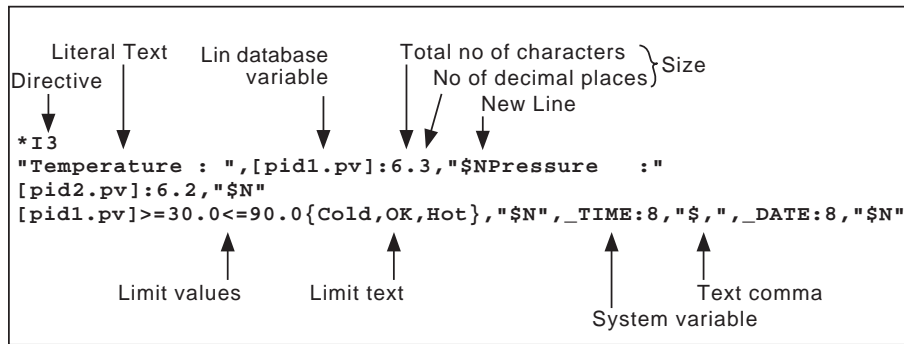

Figure 5.9.1a Sample .UYF file
An example of a .UYF file is given in figure 5.9.1a, and the resulting output in 5.9.1b The various highlighted items are discussed below.
Limit values/Limit text	<p>As shown in figure 5.9.1a, it is possible for a status line to be printed out according to the value of the variable. In the example given, the entry :</p> <pre>[PID1.pv]&gt;=30.0&lt;=90.0 {Cold,OK,Hot}</pre> <p>means that if the value of PID1 is 30.0 or more, but less than or equal to 90.0, the word 'OK' is printed. If the value is below 30.0 the word 'Cold' is printed, and if the value is above 90.0, the word 'Hot' is printed.</p> <p>It is possible to use alarm limits as the limit values, and also to use dictionary entries for the limit text e.g.</p> <pre>[PID1.PV]&gt;=[Pid.LL_SP]&lt;=[PID1.HL_SP]{#U10,#U11,#U14}</pre> <p>would print the text string held in item 11 of the User dictionary if the value of PID1 lies between the limits. If the value lies below the lower limit, the message held in U10 is printed, and if the value lies above the upper limit, the text held in U14 is printed.</p> <p>For Boolean variables, which are either false or true, the format is: [Variable]{,false text,true text}. For example, [Pid7.mode]{,Manual} would cause the word Manual to be printed when [Pid7.mode] becomes 'True', but nothing will be printed when the value becomes 'False'.</p>
System variables	<p>System variables (some of which are listed in table 5.9.1.1b) can be used to include system information in the report. In the example of Figure 5.9.1a, the items _TIME and _DATE are included to cause the system time and date to be included in the report. As with other variables, a suitable size must be allocated to the items, for formatting purposes. See the User Screen Editor handbook (HA260749U005) for a complete list.</p>